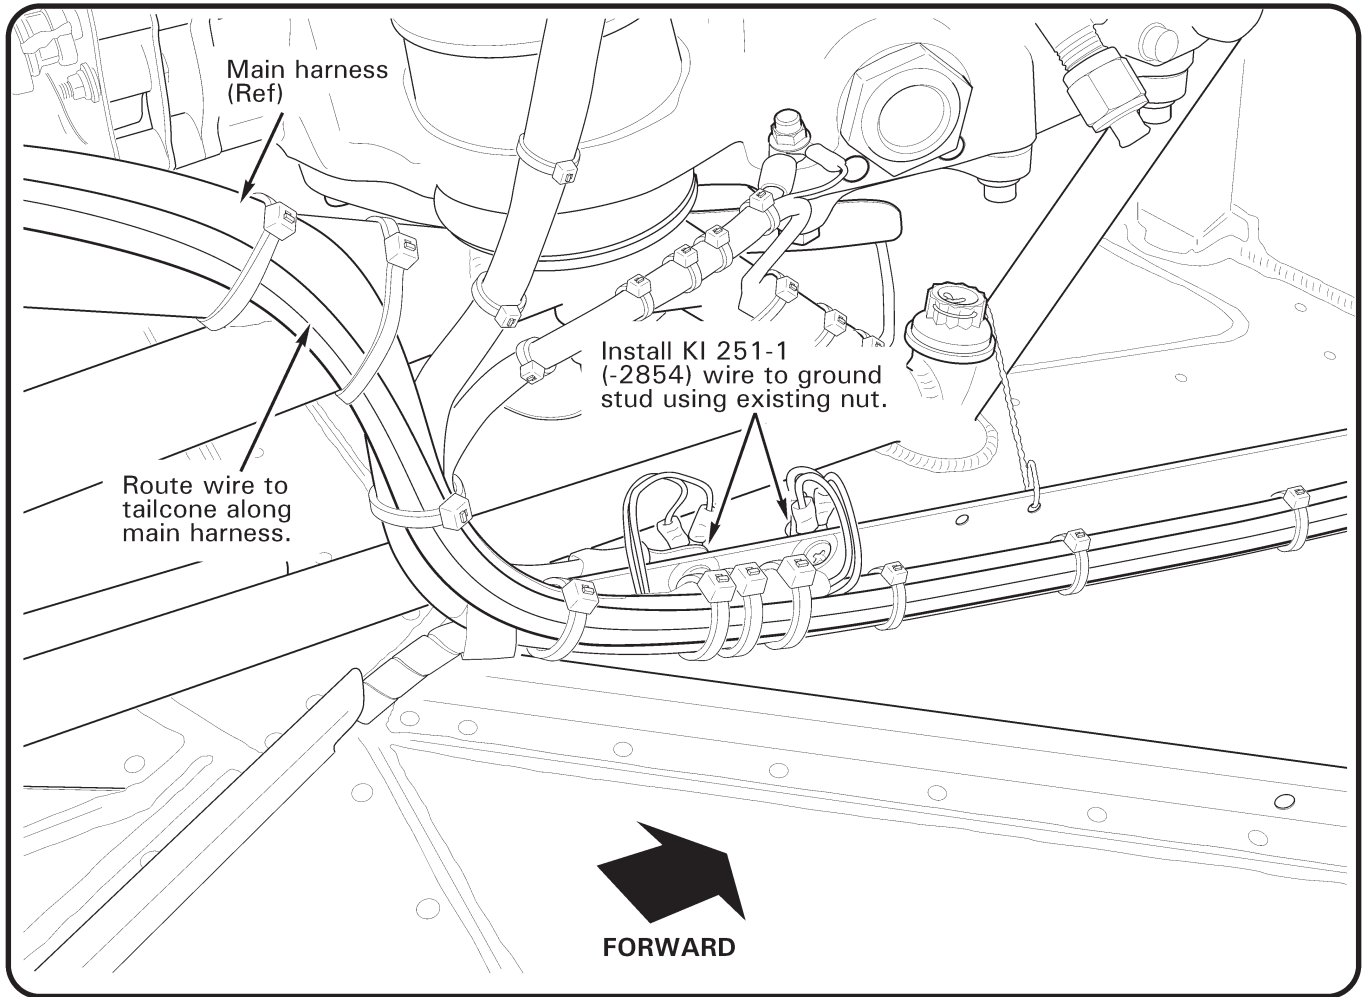

FIGURE 1 R44 Ground stud location
3. **R44-series helicopters:** Refer to Figure 1. Gain access as necessary.